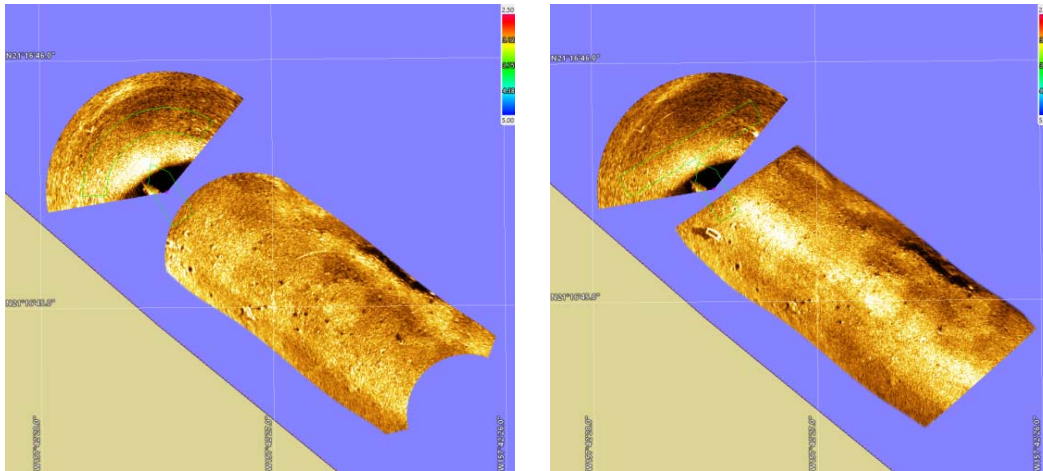

Figure 67. Arc mosaicking vs Rng-X mosaicking
- **Arc or Range-X Coverage:** Adjusting these values trims the outer arc or horizontal (X-axis) range of the FLS imagery data (Figure 67). The minimum value will clip from the port side of the FLS sector and the maximum value will define the trim from the starboard side. Values are relative to the arc length of the actual data (percentage).